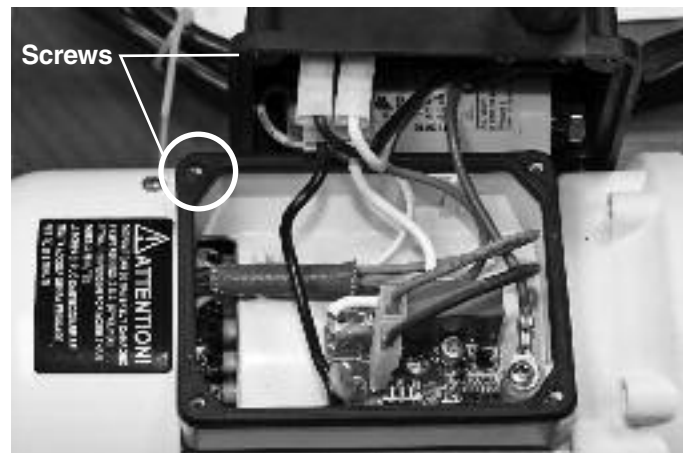

Figure 1: Electrical Switch Cover
2. Remove 4 ea. screws holding the electrical switch cover in place. See fig. 1.